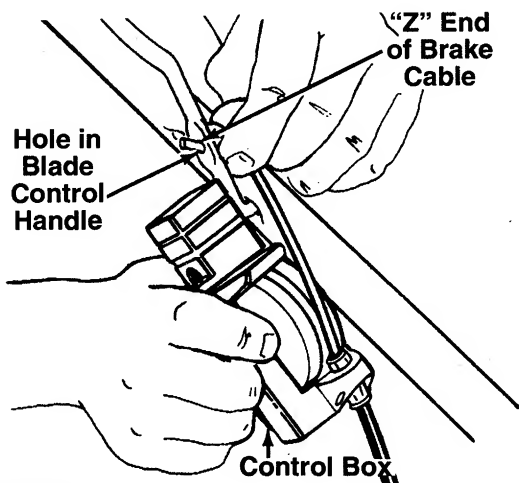

FIGURE 3.
4. Hook the "Z" end of the brake cable into the control handle from the **outside** to the **inside**. See figures 3 and 4.